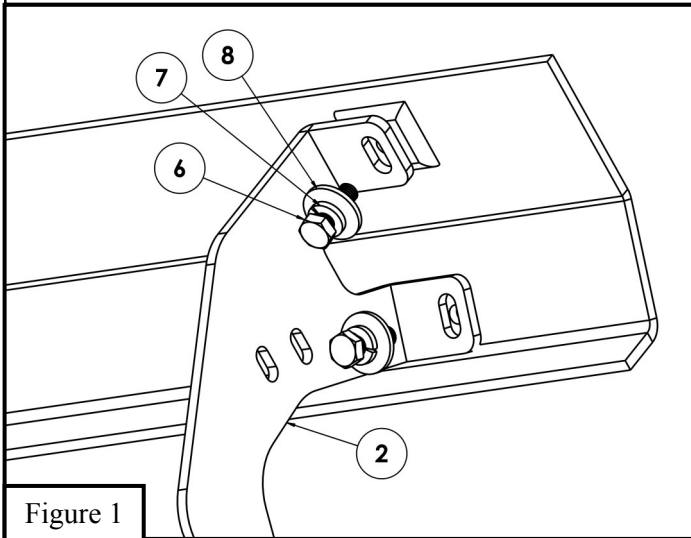

Figure 1
2. Start installation on either side of the vehicle. Locate mounting locations with factory threaded holes with caps covering them. Remove factory caps from threaded holes, they will not be used again. Locate (1) Front Mounting Bracket and loosely install it to the front mounting location on the rocker panel using (2) M8 hex head cap screw, (2) M8 split lock washer, and (2) M8 flat washer (Items 6-8). Locate the Mounting Bracket B (Item 3) and loosely secure in the correct mounting locations on the rocker panel. Loosely install using the provided M8 hardware (Items 6-8). **See Figure 1 and 2.**